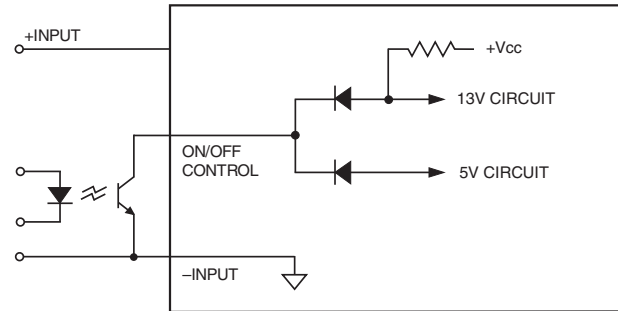

Figure 6. Driving the Negative Polarity On/Off Control Pin (simplified circuit)
**Positive** ("P" suffix) polarity models are enabled when the on/off pin is left open (or is pulled high, applying +3.5V to +15V with respect to -Input) as per Figure 6. Positive-polarity devices are disabled when the on/off pin is pulled low (0 to 1V with respect to -Input).
**Negative** ("N" suffix) polarity devices are off when pin is left open (or pulled high, applying +2.5V to +15V), and on when pin is pulled low (-0.1 to +0.8V) with respect to -Input as shown in Figure 6.